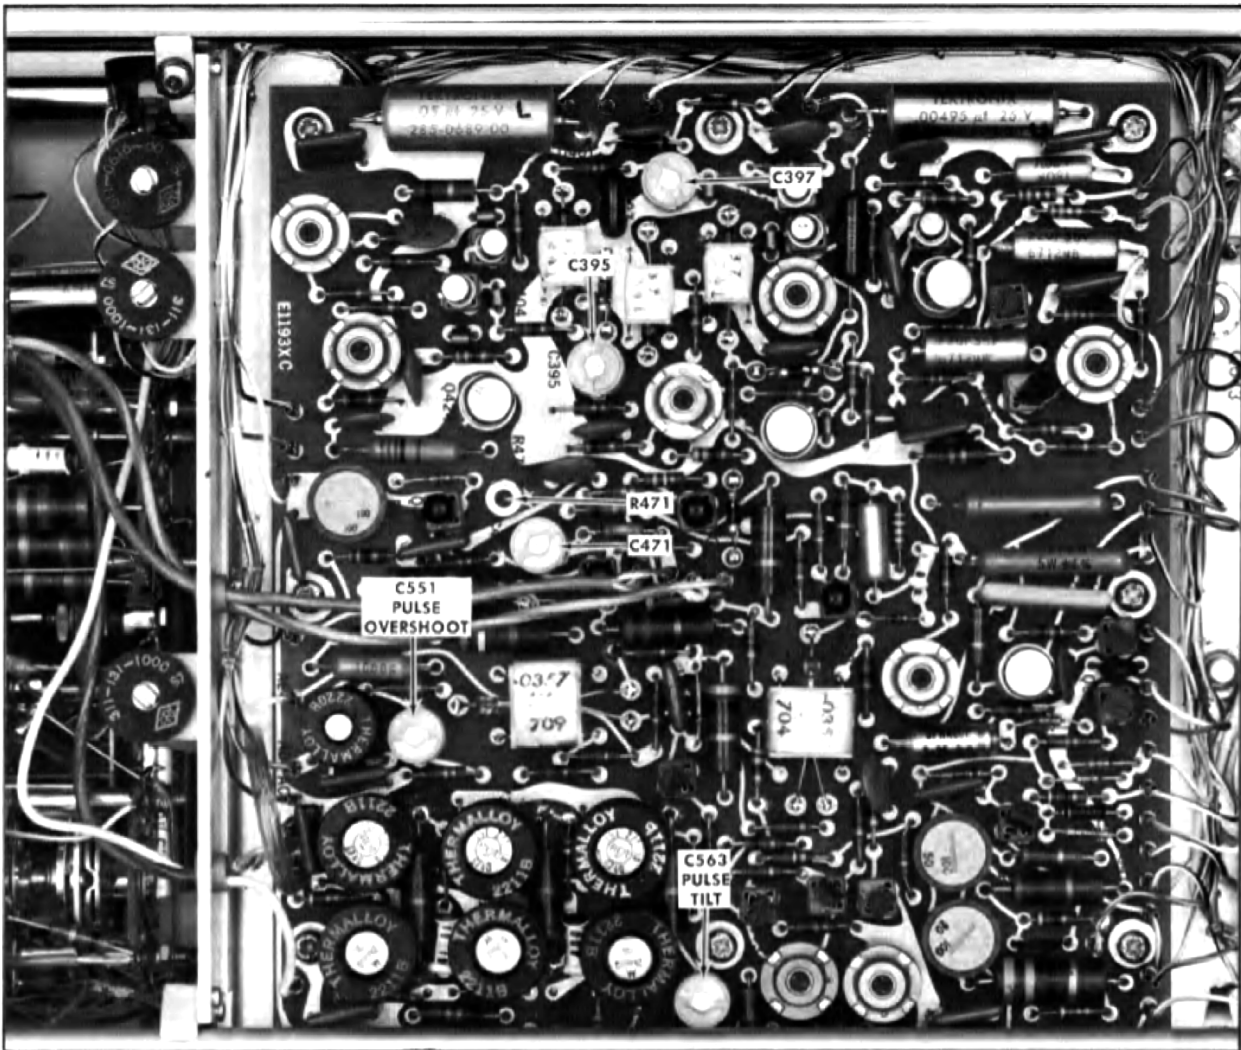

Fig. 5-16. Bottom circuit board: Location of adjustments in steps 17 through 20.
- n. ADJUST—C471 and R471 (see Fig. 5-16) for the fastest possible risetime with minimum aberrations.
n. ADJUST—R376, 10 ns  $T_r$  CAL adjustment, (see Fig. 5-13) and C395 (see Fig. 5-16) if the risetime is not correct. Remove the adjustment tool while observing the risetime.
cc. ADJUST—C397 (see Fig. 5-16) if the risetime is not correct.